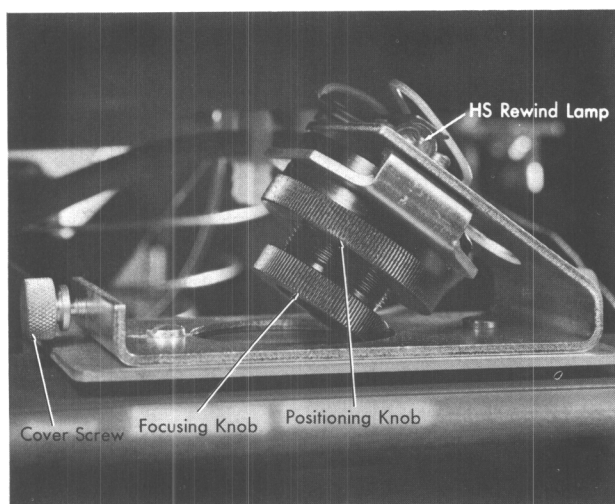

Figure 58. High-Speed Rewind Lamp Assembly
2. Focus and position the high-speed rewind light (Figure 58) so that the vertical slot of light is centered on the photocell in the finger guard between the reels. The light and focusing mechanisms are located behind the operator's panel, on the right side. To adjust, open the panel and remove the light cover. The large knurled ring is used for positioning and the small ring for focusing.